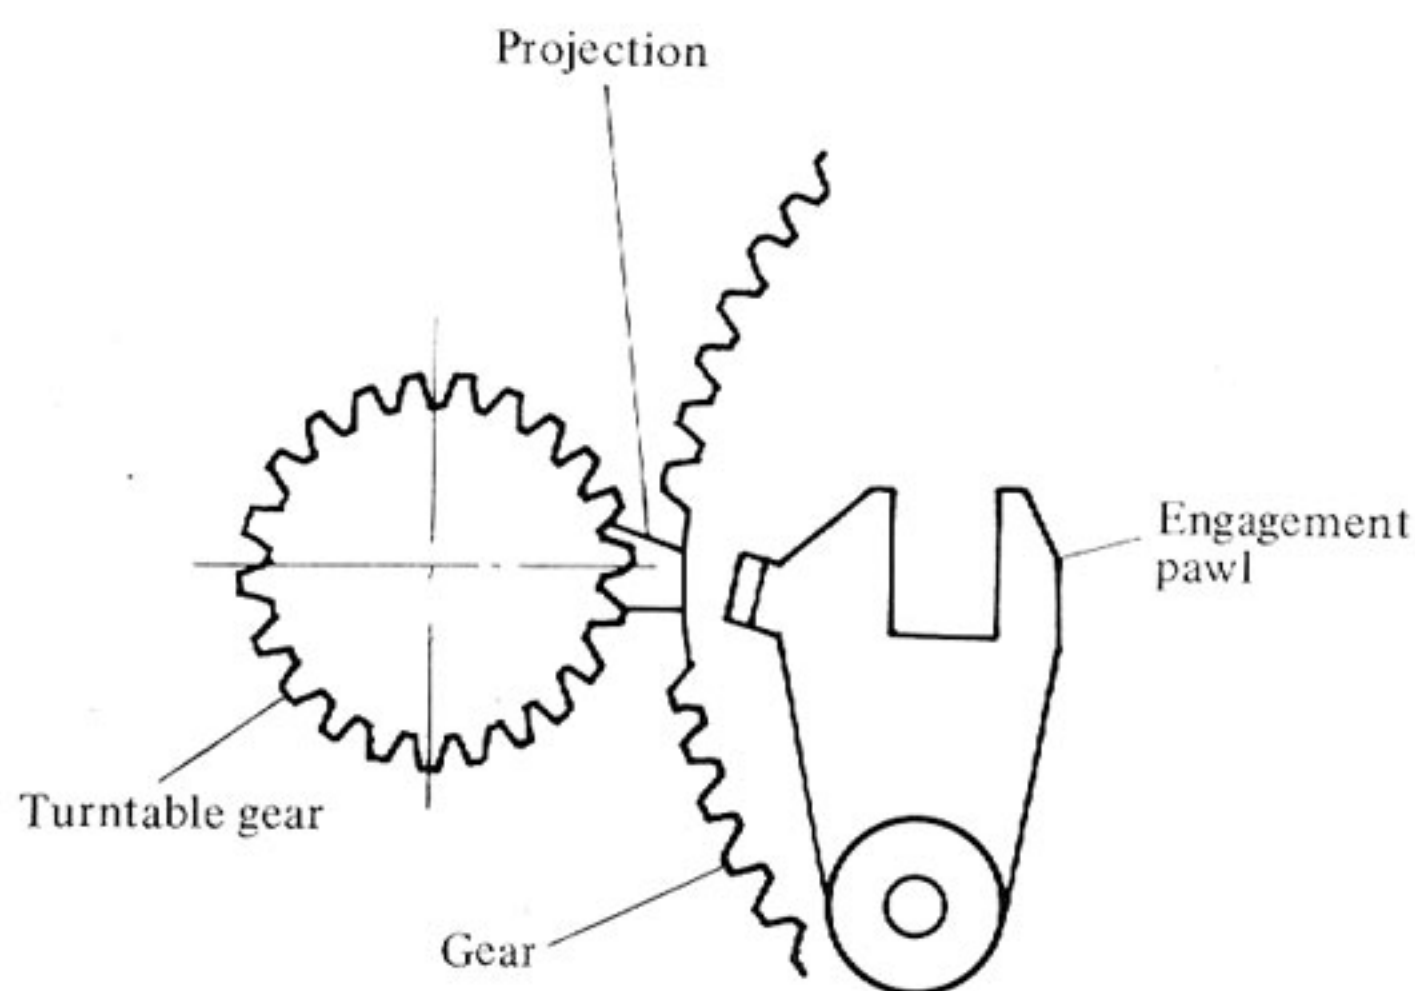

Fig. 7
- 3) Since the engagement is not held to the lower trip, it can be moved easily. The engagement pawl and the projection are positioned as illustrated in Fig. 7. When the stylus is tracking the recording groove, the movement of the engagement pawl is small, and the projection contacts the tapered portion of the engagement pawl and pushes it back a little.